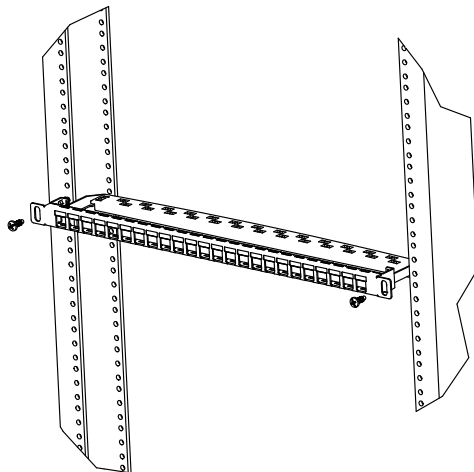

FIGURE 1
**2 Mounting Panel Assembly to Rack (See Figure 1)**